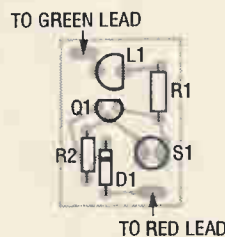

Figure 2. Make sure to study the proper orientation of L1, Q1, and D1, and install them exactly as shown here.
switch is known as an SCR. In a DC circuit, the SCR switches on between the cathode lead (C) and the anode lead (A) when a positive (+) level is momentarily connected to its gate lead (G). As you can see in the parts-placement diagram (Figure 2), the Electronic Hold Button uses normally open (N.O.) pushbutton switch S1 to accomplish that, since a (+) level appears on the green lead going to the phone line and (-) appears on the red lead. Resistors R1 and R2 are used as current limiters.
1. Build the Telephone Electronic Hold Button according to the parts-placement diagram in Figure 2, the Parts List, and the schematic. Make sure to use
2. Install LED L1 with its flat side exactly as shown in Figure 2. Install SCR Q1 and Zener diode D1, orienting the band on D1 and the flat side on Q1 exactly as shown.
This kit is so easy to build that it shouldn't present any problems -- even for first-time kit builders! If, however, your hold button doesn't work the first time, make sure that Q1 has been installed with flat side as shown, and that the flat side of LED is facing the direction as shown in Figure 2. The cathode of D1 also must face the direction shown.